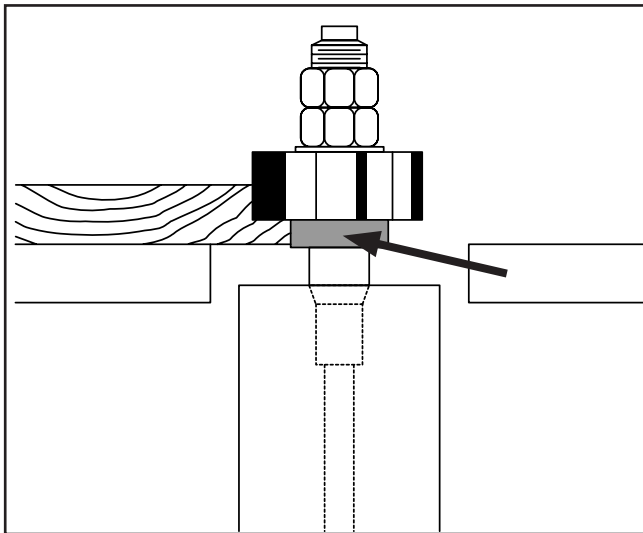

Figure 36. Rub collar installed below cutter.
1. **Rub collar below the cutter:** When the rub collar is used below the cutter as shown in **Figure 36**, the progress of the cut can be observed. However, any unintentional movement may lift the workpiece into the cutter, damaging your work and creating a dangerous situation. We DO NOT recommend this type of setup!